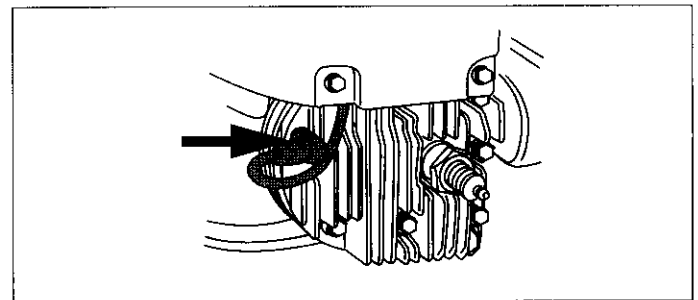

Figure 3. Typical Spark Plug Grounding Post
- Attach the spark plug wire to the grounding post if provided. See Figure 3.